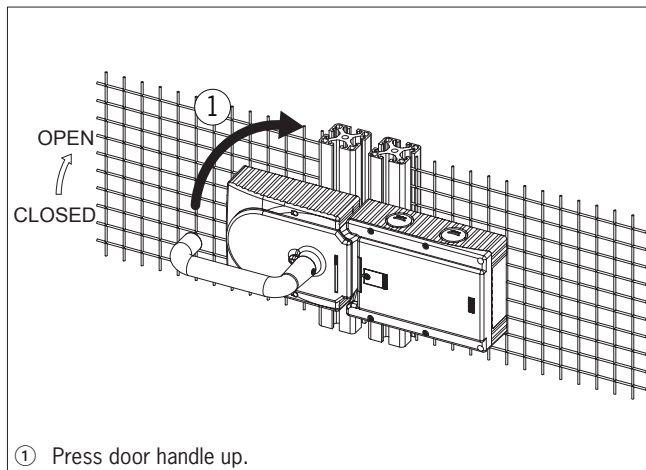

Figure 9: Changing actuating direction, step ①
- The system is mounted the other way up, as it were, for doors hinged on the left. In other words, the safety guard opens by pressing up the door handle (see Figure 9). For this reason the actuating direction of the door handle must be changed (see Figures 9 - 14).